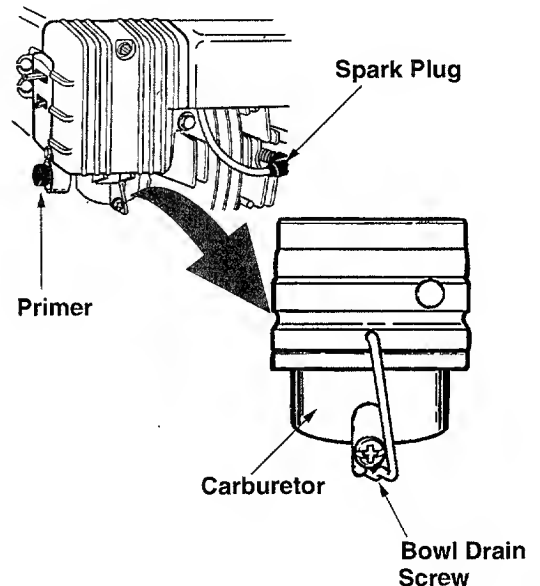

Figure 19
- Drain carburetor by removing bowl drain screw which is located below the carburetor. See Figure 19.